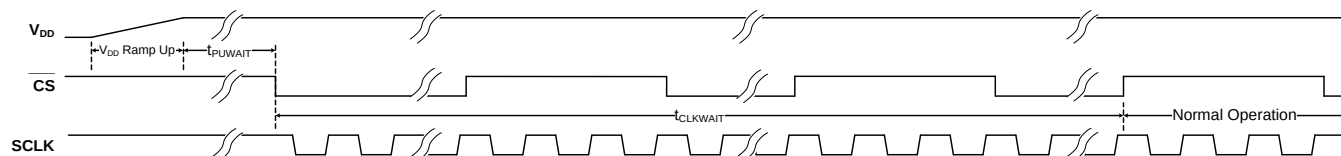

Figure 12: Power-Up Sequence
- 9) For  $t_{PUWAIT}$  and  $t_{CLKWAIT}$ , see Figure 12 on page 17.
Figure 12 shows the detailed power-up timing sequence.